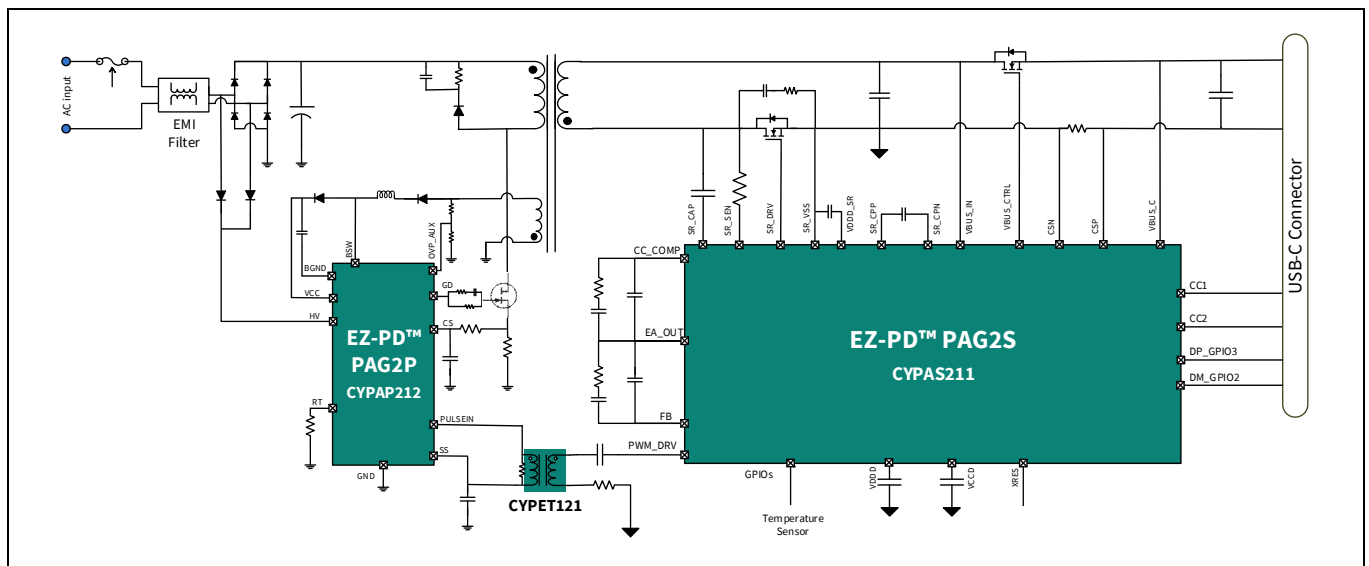

Figure 1 USB PD adapter with secondary-side flyback control
Figure 1 shows a power adapter application diagram implementing a secondary-side controlled synchronous flyback system. In this system, EZ-PD™ PAG2S-QZ modulates the pulse width of the primary MOSFET in voltage control mode. PAG2S-QZ engages the internal error amplifier (EA) and a programmable ramp generator to determine the pulse width of the PWM. This PWM signal is transferred from the secondary to the primary side through a pulse edge transformer. In this topology, PAG2S-QZ integrates three key features: secondary-side PWM control, charging protocol control, and fault protection. In the following example, EZ-PD™ PAG2P is used as the primary controller with PAG2S-QZ.
PAG2S-QZ integrates two error amplifier blocks which handle secondary-output sensing and regulation for both constant voltage and constant current modes of operation. The error-amplifier output feeds into the internal analog PWM block. The negative input of the error amplifier is the feedback (FB) pin and the positive input is an internal voltage reference. Based on the desired VBUS output, the voltage at the FB pin will be changed using internal current source/sink IDACs. An external compensation network is required between the FB and EA_OUT pins, as shown in the application diagram (see Figure 1). Constant current operation makes use of an internal LSCSA, the output of which feeds into an independent error amplifier as shown in functional block diagram. Constant current mode regulation requires an external compensation network between CC_COMP_GPIOx and EA_OUT as shown in Figure 1.